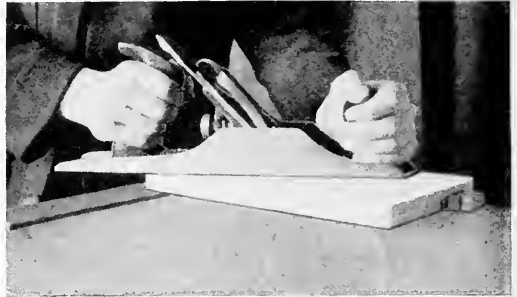

Fig. 1. Holding Wood Between Bench Pegs and Planing Surface.
- 1—Plane one side smooth and mark "I." Call this side the working face. Fig. 1.